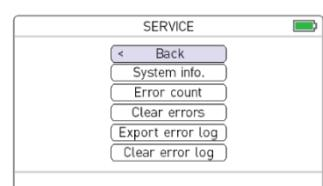

Figure 47. Service
3. Service is shown (See Figure 47). Here you can access System information, Error count, Clear errors, Export error log and Clear error log.
1. In SERVICE (See figure 47), select System info with .
1. In SERVICE (See figure 47), select Error Count with .
1. In SERVICE (See figure 47), select Clear Errors with . The dialoge Clear errors? Is shown (See figure 50)